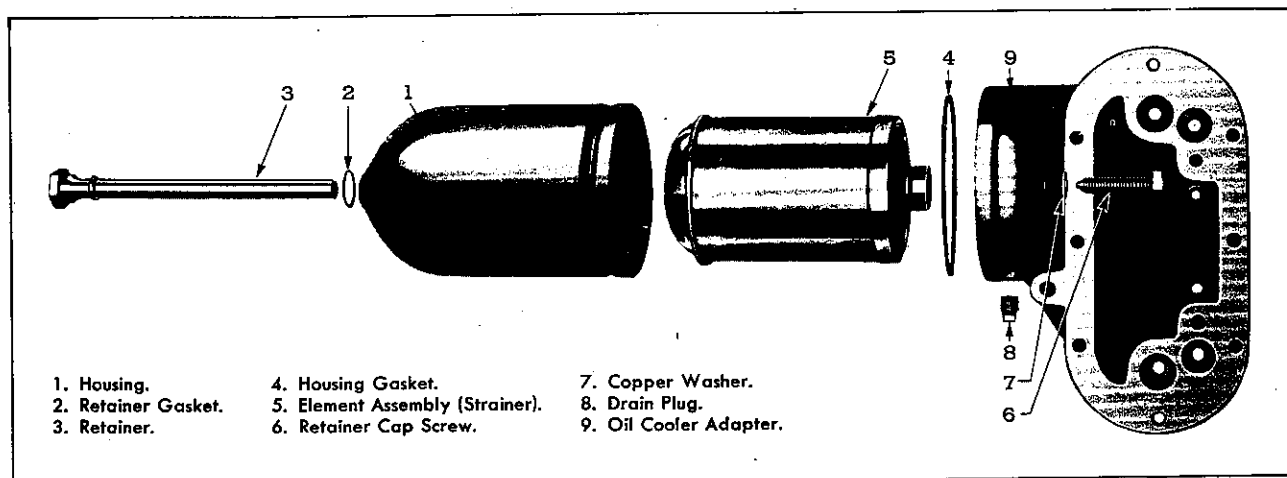

Fig. 25—Lubricating Oil Strainer Details and Relative Location of Parts.
**Cleaning Lubricating Oil Strainer**—Lubricating oil strainer should be reconditioned at each lubricating oil renewal period. This will be approximately 100 hours or 2000 miles of operation. To clean the strainer refer to Fig. 25 and:
1. Remove plug (8) and drain oil from strainer housing (1).
2. Loosen retainer tube (3) at the small end of the strainer housing by turning counter-clockwise on the acorn head.
3. Pull housing (1), strainer (5), retainer tube (3) and retainer gasket (2) away from oil cooler adaptor (9).